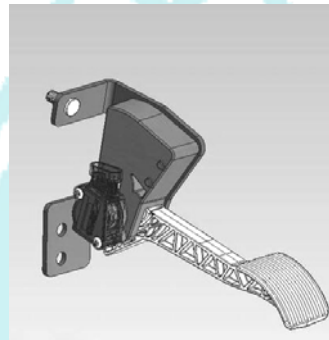

Fig. 3 Accelerator Pedal
- ① Accelerator pedal sensors 1 and 2 (Fig.3); ② Speed sensor; ③ Power output acceleration sensor;
- ④ Idle control sensor